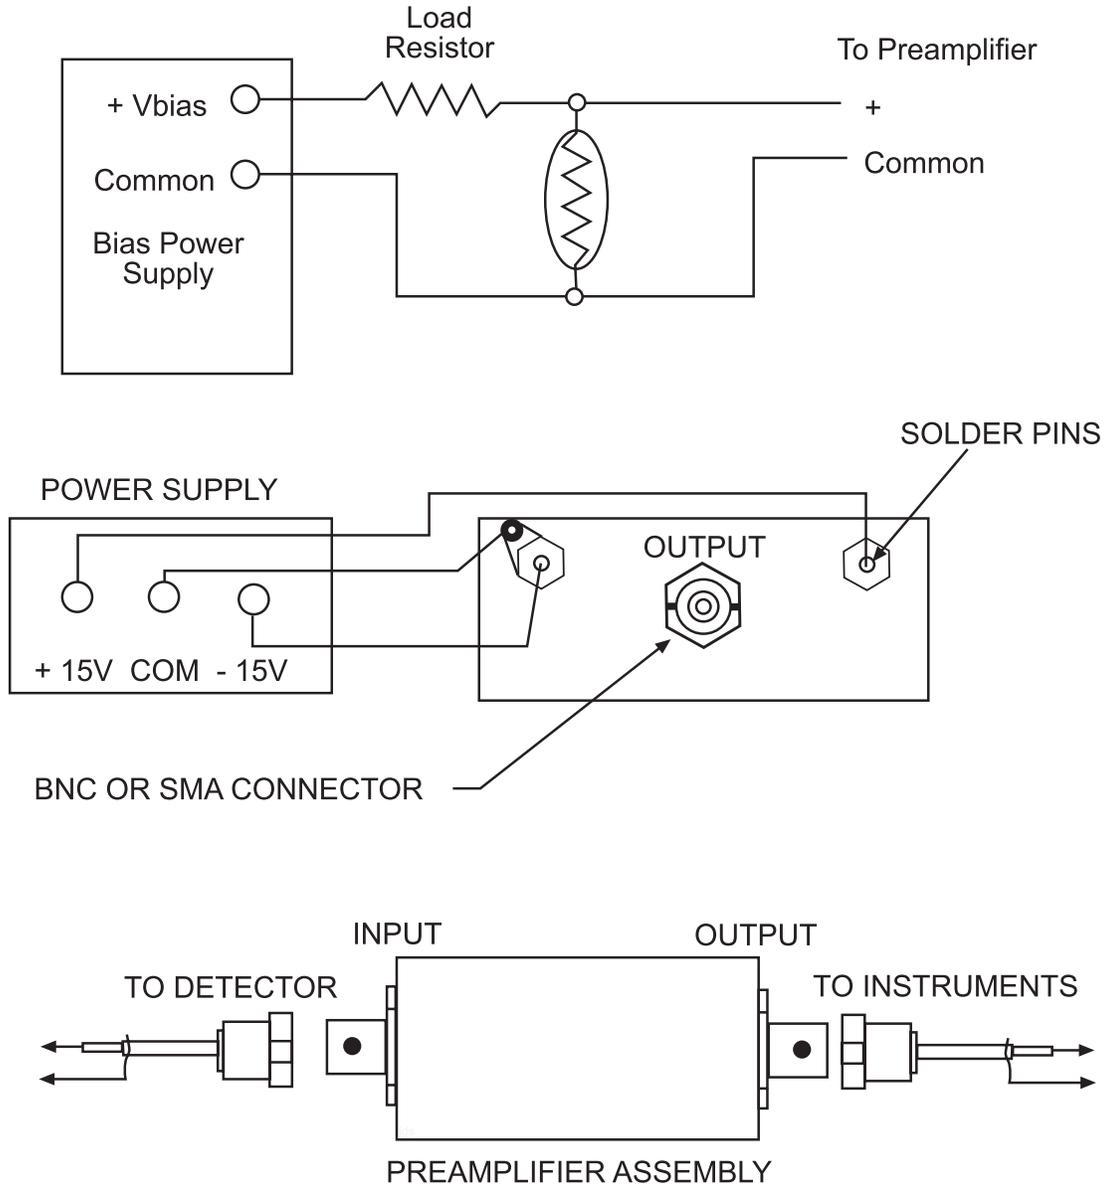

FIGURE 1
Your preamplifier assembly has been matched to enable your PbS/PbSe device to perform at its optimum level. The detector bias must be provided externally (see Figure 1). This amplifier operates in voltage mode and AC couples the detector signal to its input.
- 3 With the power source turned **OFF**, connect the detector to the input of the preamplifier using the cable furnished. Connect the power source to the preamplifier as shown in Figure 1.
- 5 Check all connections to insure they match Figure 1.